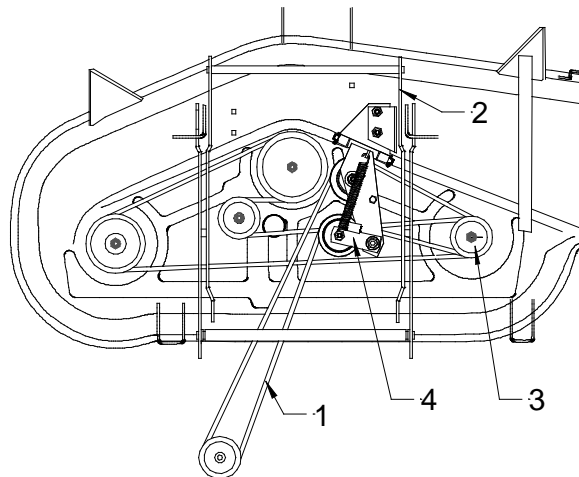

Figure 5
3. Route the V-belt under the linkage to the top pulley of the blade spindle and in front of idler pulleys, then towards the back (fig. 5).